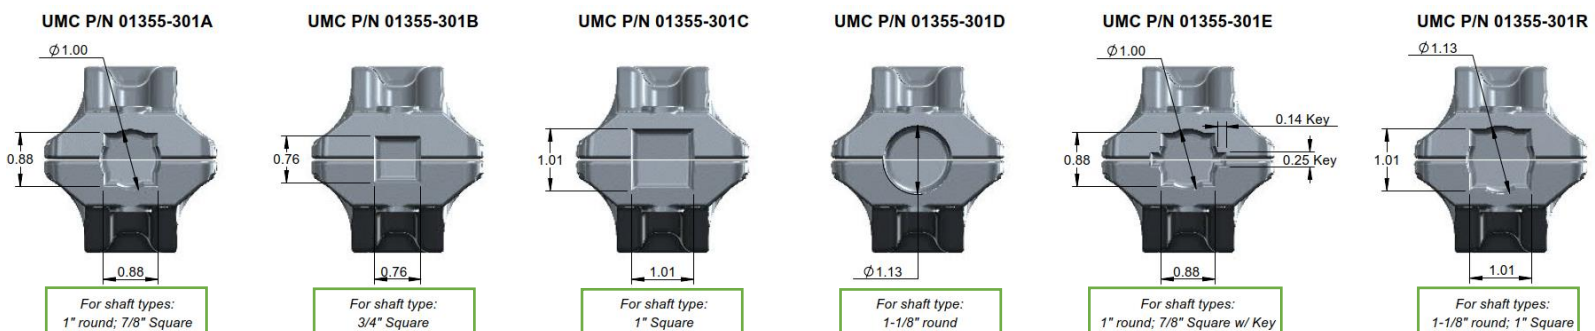

Figure 2: UMC coupler part numbers and corresponding shaft type and size.
- Before you start, take a moment to identify the coupler that you have with the types listed below in Figure 2. Each type of coupler fits specific shape(s) and size of shaft(s). **FAILURE TO USE THE CORRECT COUPLER CAN RESULT IN DAMAGE UPON INSTALLATION OR FAILURE DURING OPERATION.**